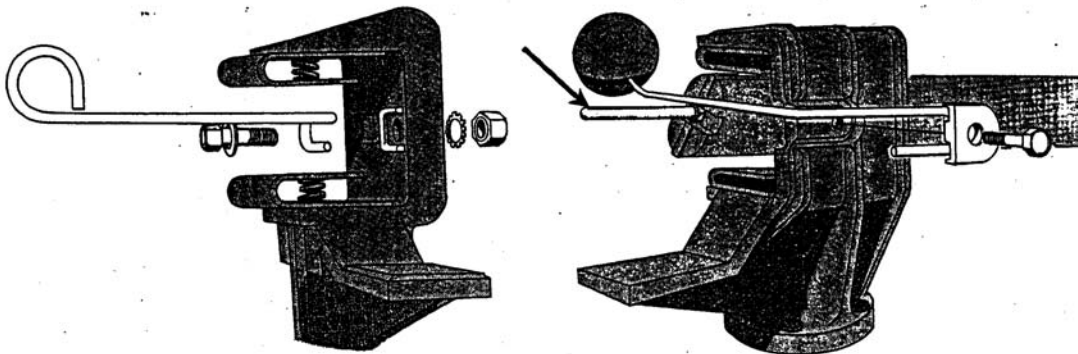
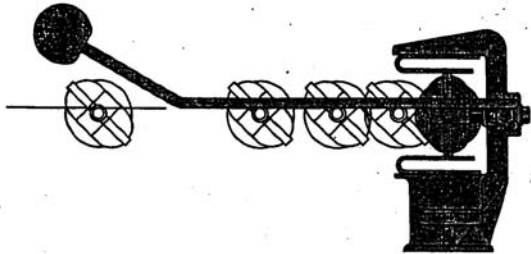

Figure 11 - Arcing horn attachment. Blade arcing horn (arrow) goes under jaw horn.
Figure 12 - Correct arcing horn adjustment has horn parallel to movement of the blade tip, allowing light contact through full length of engagement.
10. Install the arcing horn on each jaw as shown in figure 11. The horns should touch *lightly* throughout their stroke. Arcing horns rubbing together with excessive pressure can cause the blade to rotate outside the contacts, causing switch malfunction. Bend the stationary horn as required to achieve enough pressure for contact, but not so much as to cause binding. (See Figures 12 and 13.)